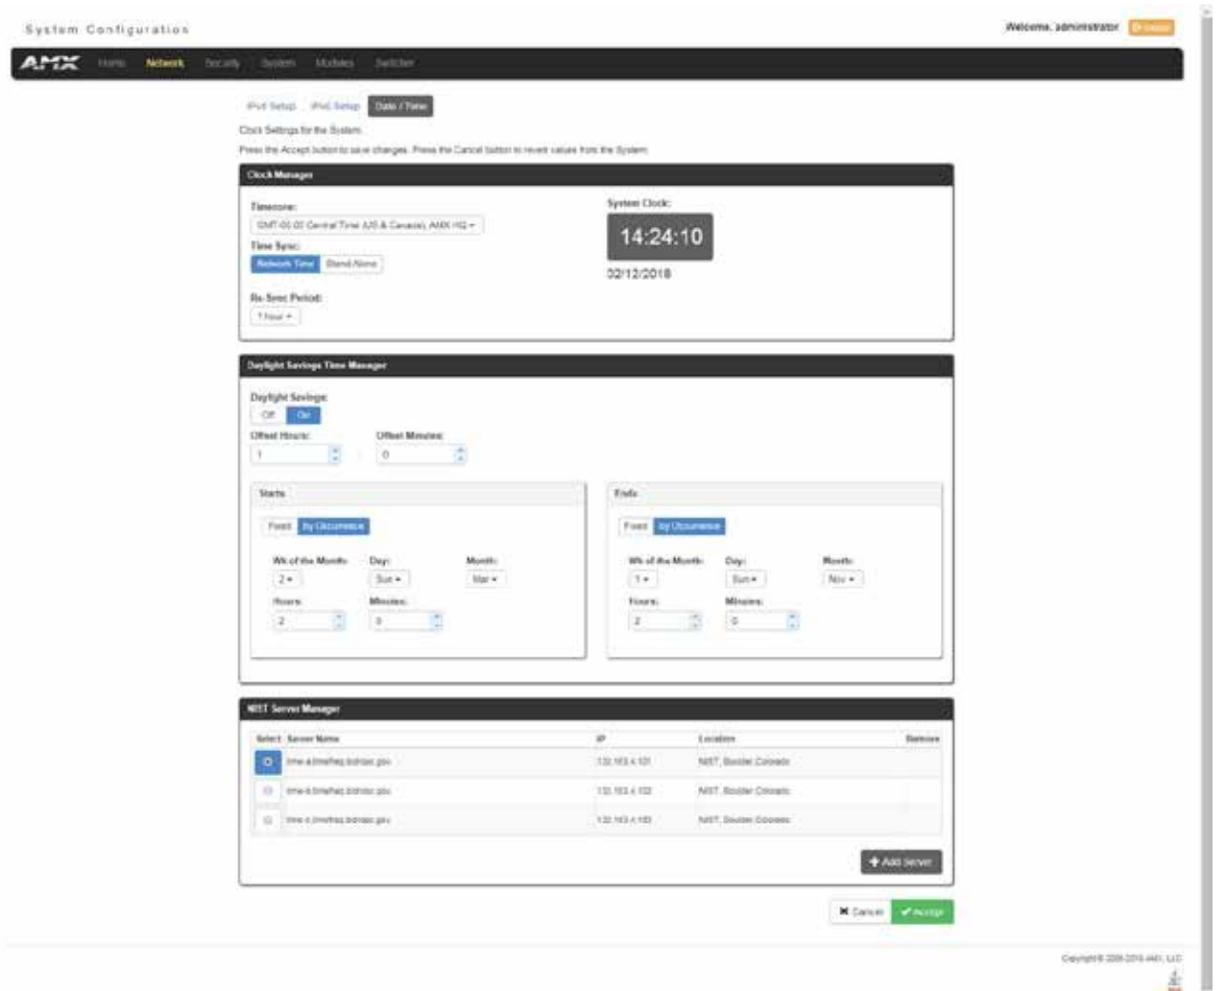

FIG. 68 Network - Date/Time page
Click the **Date/Time** link (on the *Network* page) to access the *Date/Time* page (FIG. 68). The options on this page allow you to enable/disable using a network time source and provide access to Daylight Saving configuration and which NIST servers to use as a reference. This page is only available on the NCITE-813AC Presentation System.
1. In the *Manage System* tab (FIG. 68), select a **Time Sync** option.